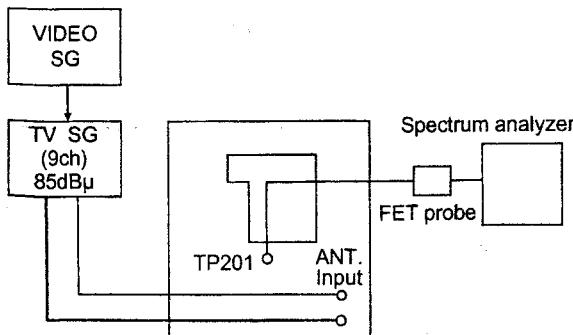

Fig.8
- Connect the measuring equipment as shown in Fig.8.